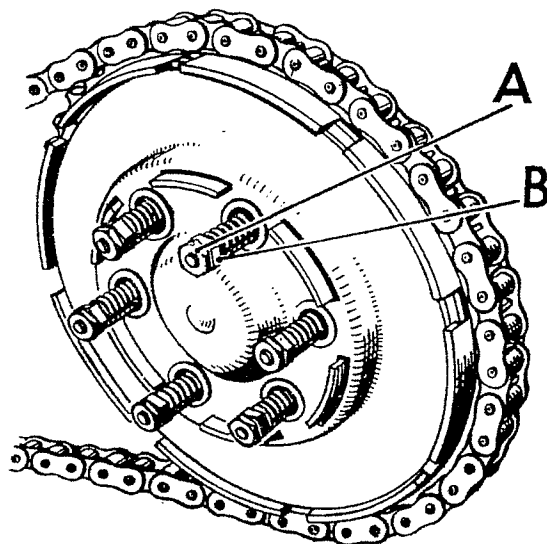

Fig. B19. Clutch Spring Adjustment.
The clutch springs should be replaced if they have shortened appreciably. The spring retaining nuts should be tightened initially until the outer nut (A) Fig. B19, is just fully engaged on its thread.